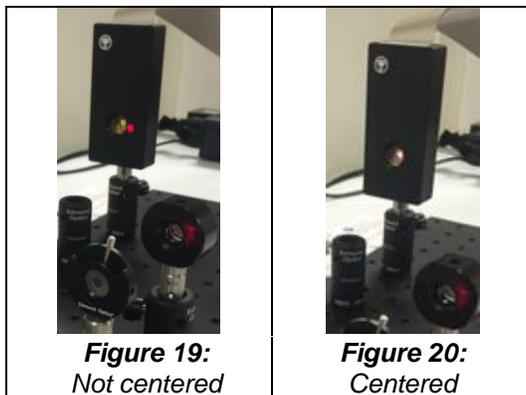

Figure 19:
- Adjust the position of the kinematic mirror so the beam is centered with the DM, **see Figures 19 and 20 below.**